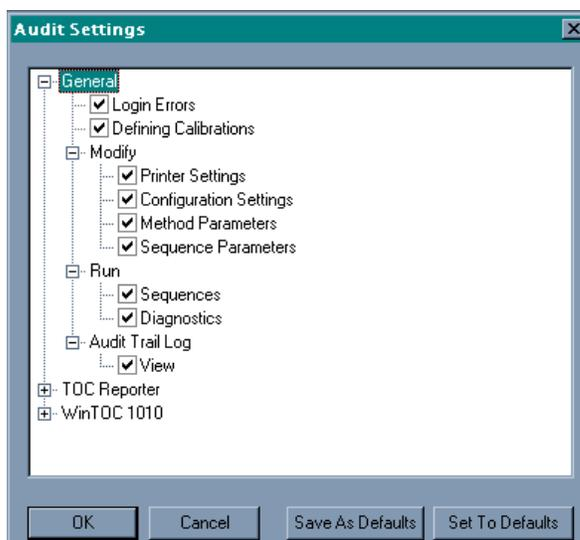

Figure 6.5. Auditing Settings window
2. Click **Customize Audit Settings**. This accesses the Audit Settings window (Figure 6.5.).